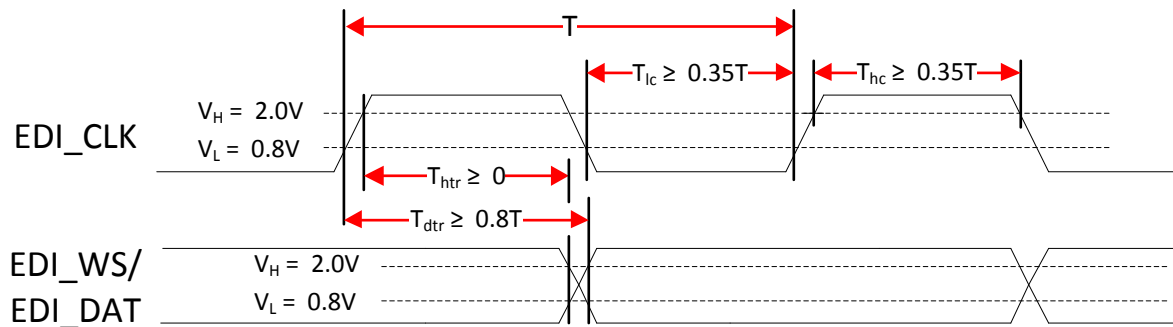

Figure 9.3-5. I2S master interface timing diagram
The operating characteristics of the I2S master controller at typical temperature (25°C) are shown in Figure 9.3-5 and Table 9.3-3. Example: I2S master transmitter with data rate of 0.512MHz (±10%) (0.512MHz = 16kHz x 32 , Audio Sampling Rate x Sample Bits).
(1)  $C_b$  = total capacitance of one bus line in pF. If mixed with high-speed mode devices, faster fall-times according to Figure 9.3-5 are allowed.